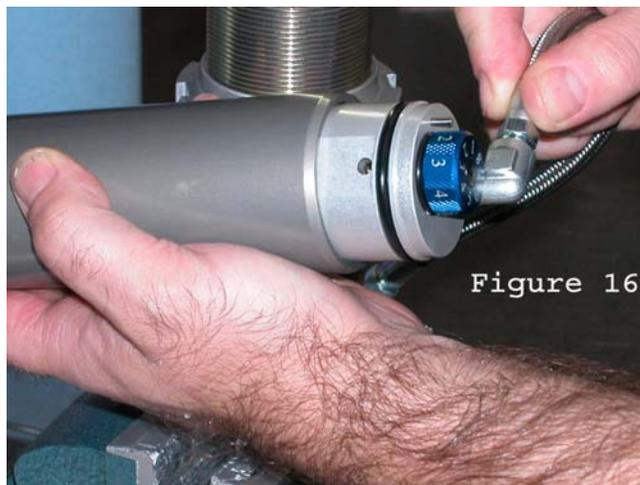

Figure 16
40. Check the bore of reservoir for any visible signs of wear or damage. Insert the CD housing into the end of the reservoir with the large chamfer on outside edge (Some reservoirs will not have this chamfer. Orientation is not critical on these reservoirs). **(Fig. 16)** Push the CD housing far enough into the reservoir to expose the CD housing retaining ring groove. Insert the retaining ring into groove. Check to make sure ring is properly seated. Pull CD housing out of reservoir until it engages securely with retaining ring.